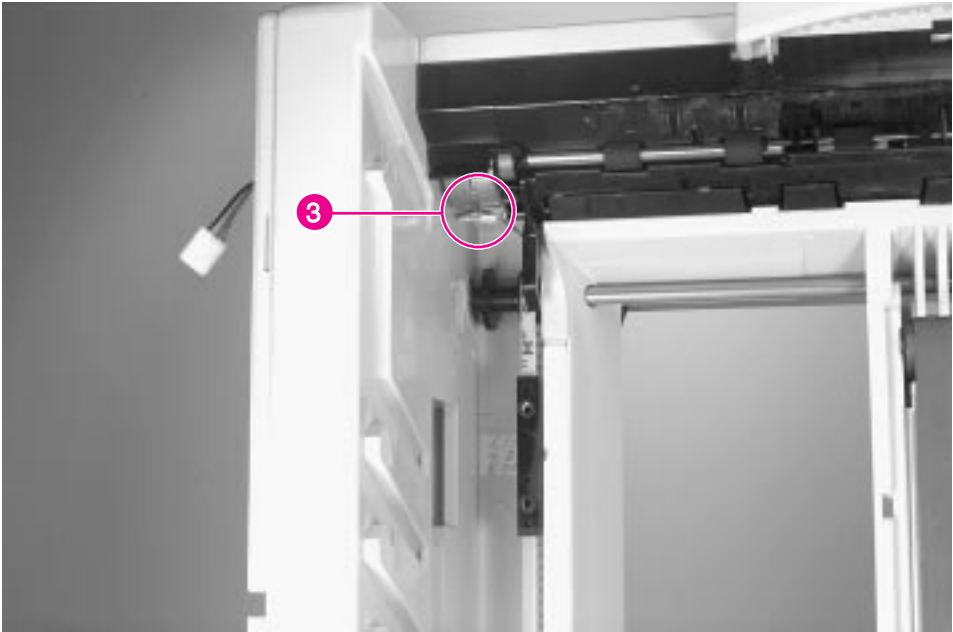

Figure 6-60 Mailbox with Stapler, Flipper Assembly Ground Wire
- 6 Unplug the ground wire from the Flipper Roller Motor (figure 6-60, callout 3).
- 2 Open the Jam Access Door, and disconnect the ground wire from the bottom of the Flipper Roller Motor (figure 6-60, callout 3).